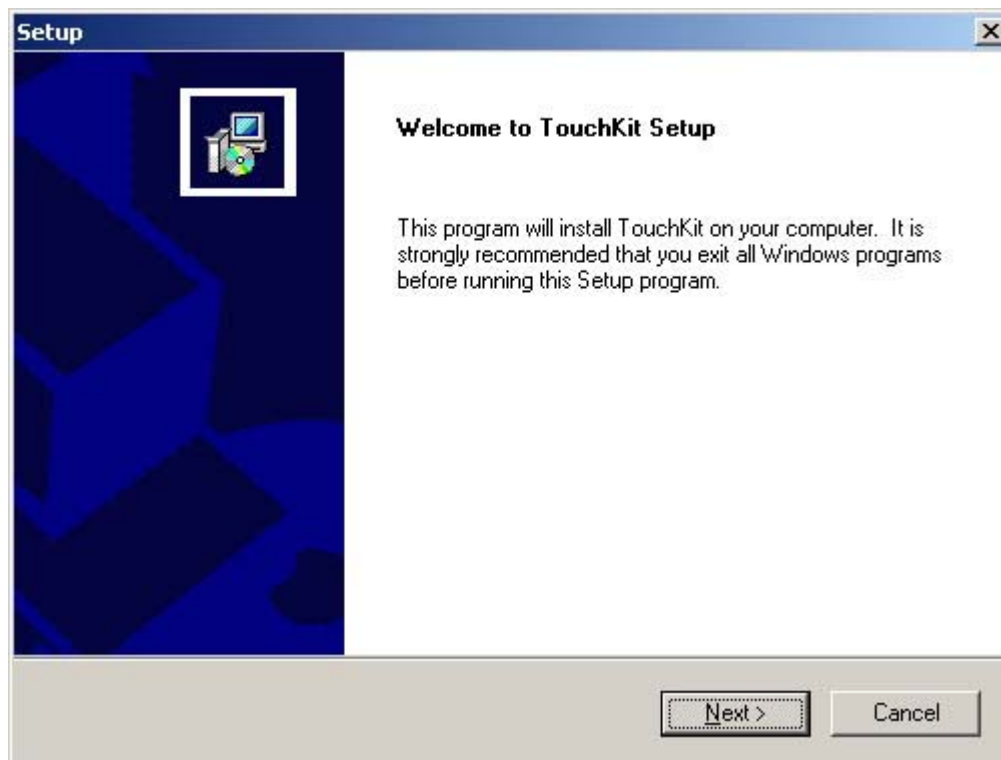

Figure D-3: Welcome Screen
Step 5: After the **Install Shield Wizard** is ready, a welcome screen appears (**Figure D-3**).